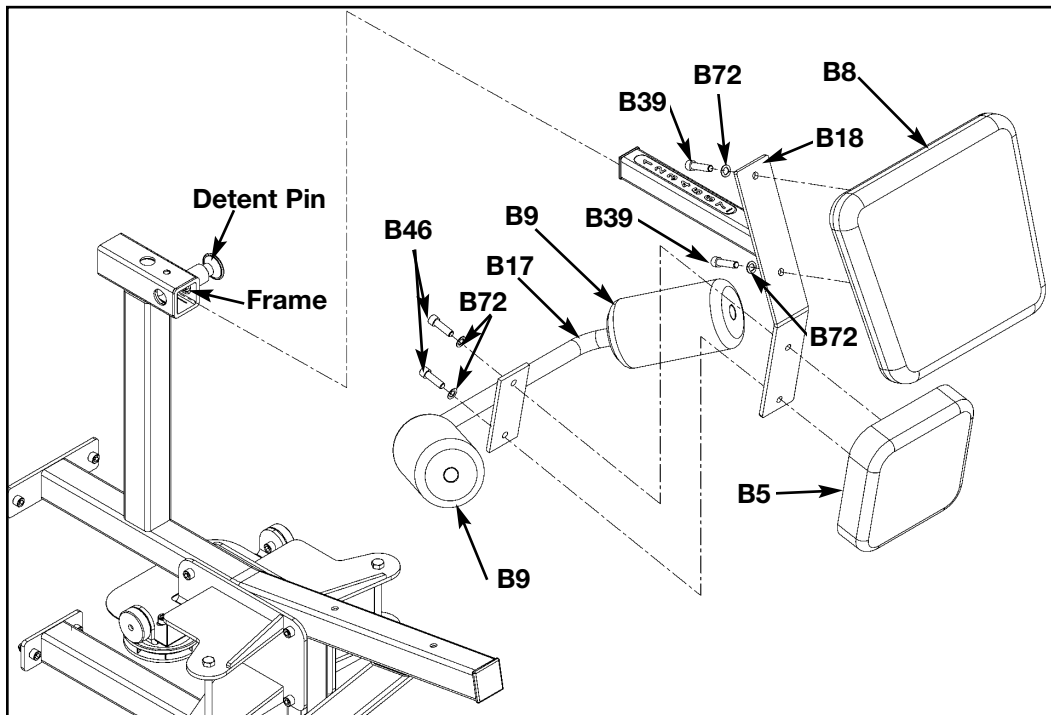

Figure 13
**8. Install cushion supports and cushions** (see steps 8A - 8I and Figures 13 - 15).
- C.** Slide cushion mount (#B18) onto frame as shown in Figure 13.